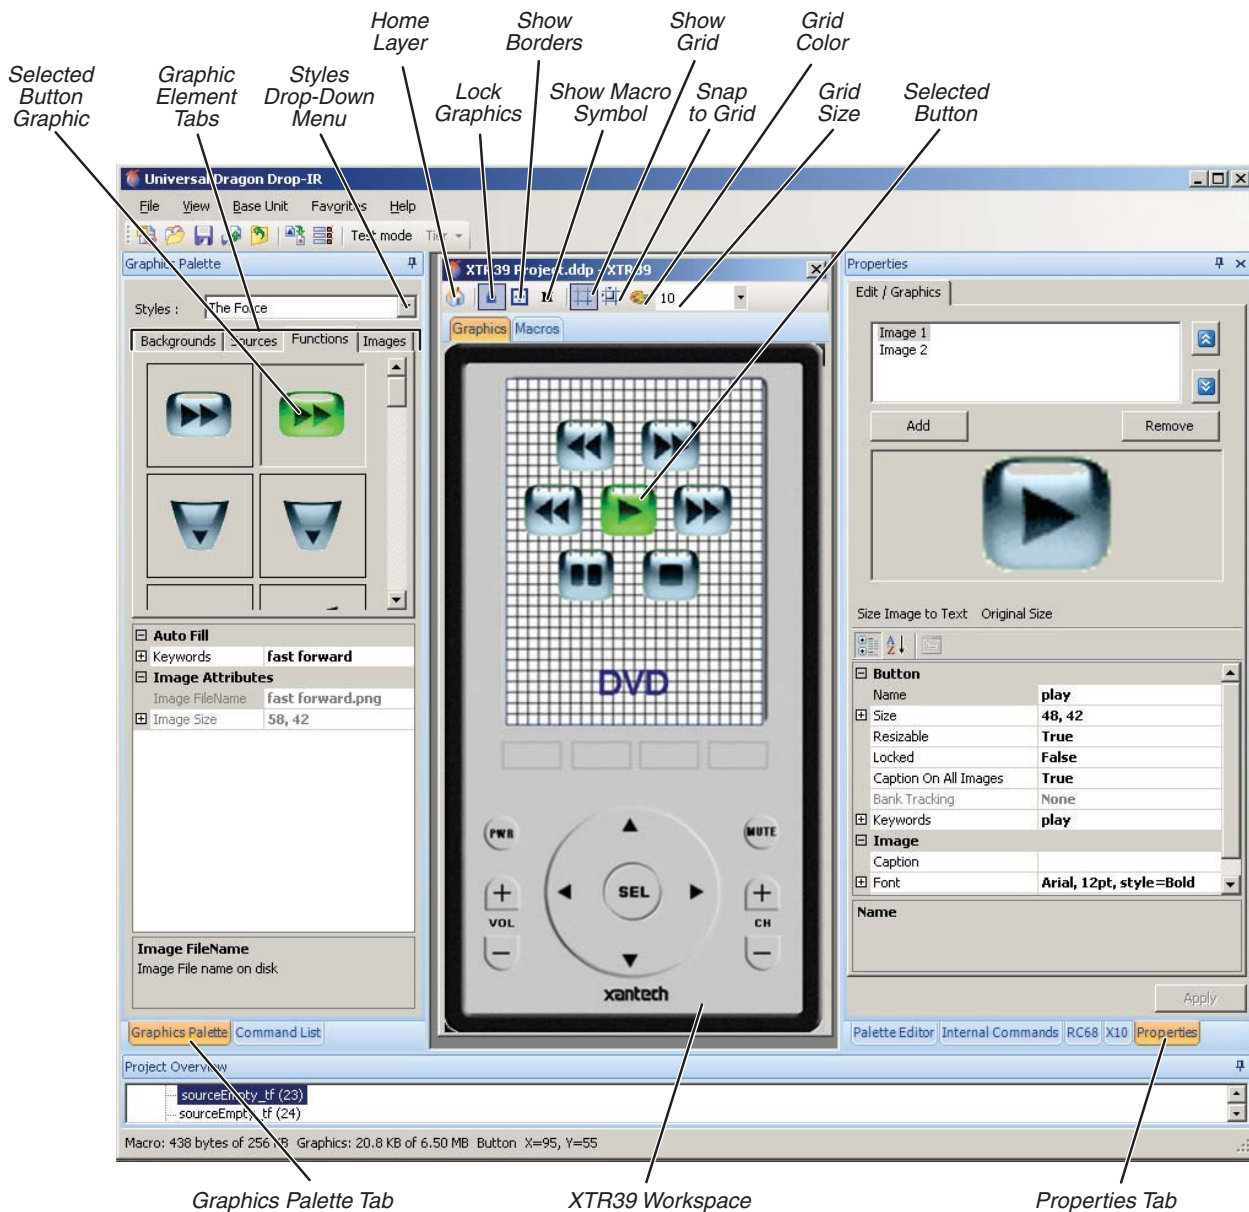

Figure 39: XTR39 Programming Screen
1. Select the *Graphics Palette* tab to activate the Graphic palette window (see *Figure 39*, on page 20).
4. Click on the *Home Layer* icon to activate the home page, then select the *Source* Graphic Elements Tab (see *Figure 39*, on page 20). Drop the desired Source buttons (one for each device to be controlled) onto the
NOTE: TO HELP WITH POSITIONING ELEMENTS, THE XTR39 SCREEN WORKSPACE HAS AN ALIGNMENT GRID (ALONG WITH A "SNAP-TO" FUNCTION) THAT CAN BE TURNED ON AND OFF. EACH GTL HAS A BORDER (SHOWN AND HIDDEN BY THE SHOW BORDERS BUTTON) THAT SHOWS THE GTL PLACEMENT RELATIVE TO THE GRID. (SEE FIGURE 39.) ONCE ALL GTLS ARE IN PLACE YOU CAN CLICK ON THE LOCK GRAPHICS ICON TO PREVENT ACCIDENTAL MOVEMENT OF THE GTLS.
5. Once all of the Source buttons are in place, double-click on one and then select the *Functions* Graphic Elements Tab (see *Figure 39*). Drop the desired Function buttons for that source component onto the screen. You can program each button's macro (as described in *Build Macros*, on pages 4 – 5) now, or at a later time.